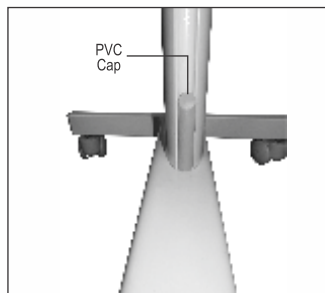

Fig 4
4. Cover the bolts with the PVC Caps provided on both the sides (Fig 4).